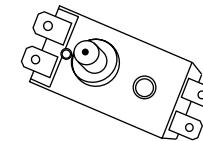

Fig. 12
- for RS1/RS2 series water heaters: unscrew retaining nut of the thermal switch, fastened on the flange of the heating element, turn over the thermal switch and press the button, located in the center of the thermal switch, until it clicks, Fig. 12;